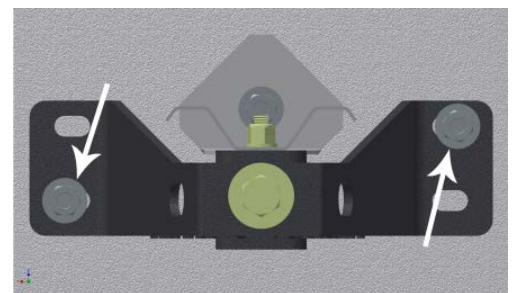

Figure 6: Drill anchor bolts 2 1/4" deep.
14. Drill two anchor bolt holes 2 1/4" in. deep in the pad diagonally opposite of each other. (Figure 6)
**When anchoring 15K assemblies or greater you will use four (4) anchor bolts.**